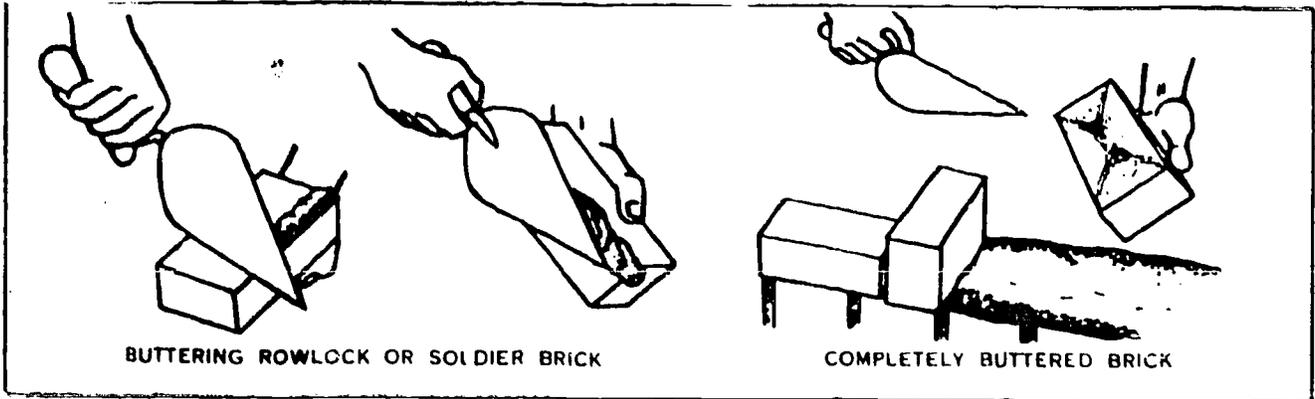

Figure 28. How to Butter a Rowlock or Soldier Brick
The additional procedures you must follow when buttering these brick are as follows (1) apply mortar to the entire face of each brick; (2) butter all four edges of one side of the brick to form a full, complete cross joint when the brick is laid. The procedure to follow when buttering rowlock or soldier bricks is shown in Figure 28.